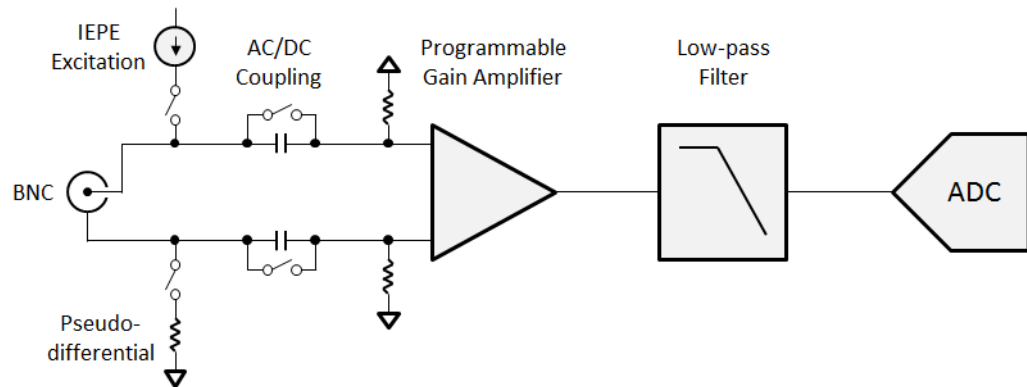

Figure 3.1 Analog Input Functional Block Diagram
The USB-5801 provides 8 channels of analog input (AI) signal measurement. Figure 3.1 shows the functional block diagram of one analog input channel.